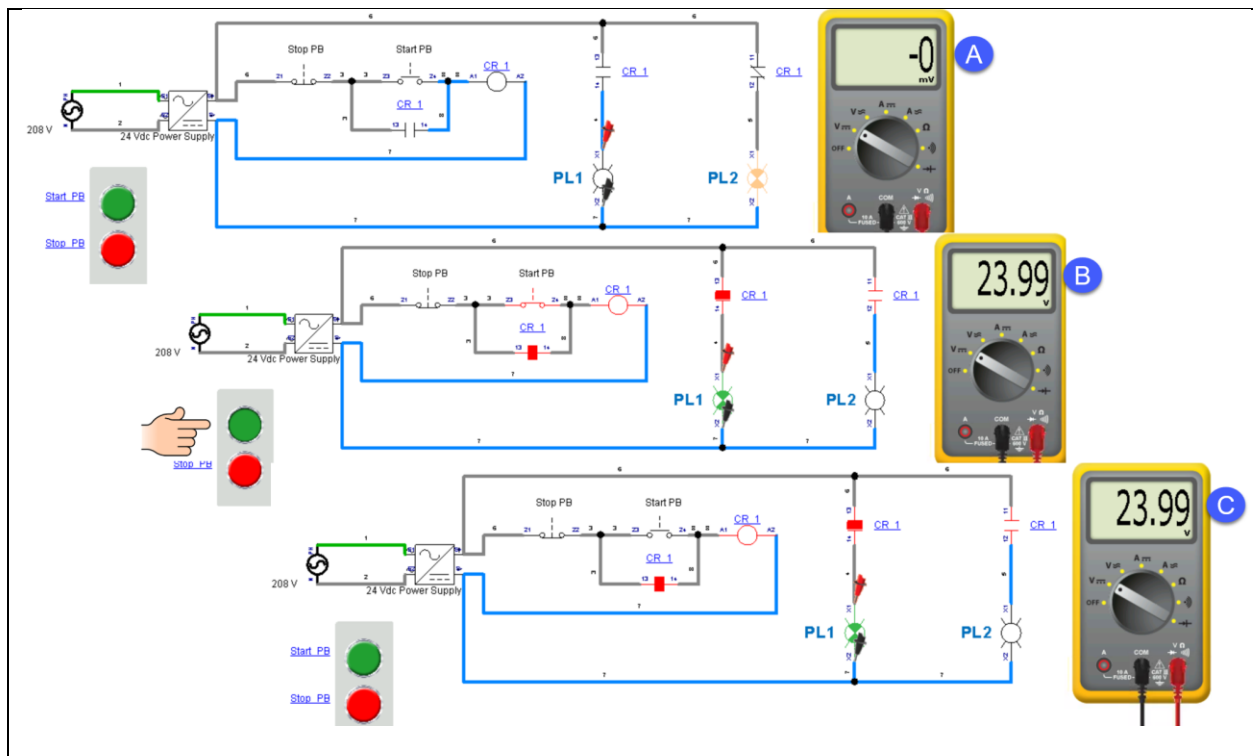

Figure 15. Measuring the voltage drop across pilot lights.
2. Figure 15 shows the relay in a start and stop pushbutton configuration with a hold-in contact, which is a normally-open contact in parallel with the start button. The purpose in the hold-in contact is to hold in the relay after the start pushbutton is released.
3. Actuate the Start_PB as shown in Figure 15-B. The relay should actuate.
4. Release the Start_PB as shown in Figure 15-C. The relay should remain actuated.